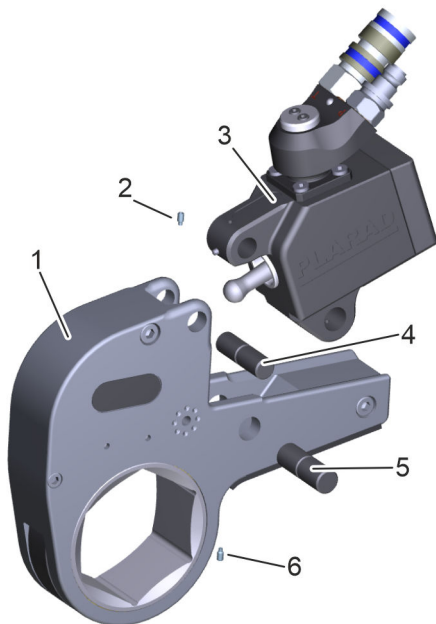

Fig. 13: Connecting the ratchet head and drive unit
Insert the drive unit (Fig. 13/3) into the ratchet head (Fig. 13/1). The holes for the fastening pins (Fig. 13/4 and 5) must align.
7. Push in both fastening pins (Fig. 13/4 and 5) until they engage.
8. Secure the fastening pins (Fig. 13/4 and 5) with stud bolts (Fig. 13/2 and 6).